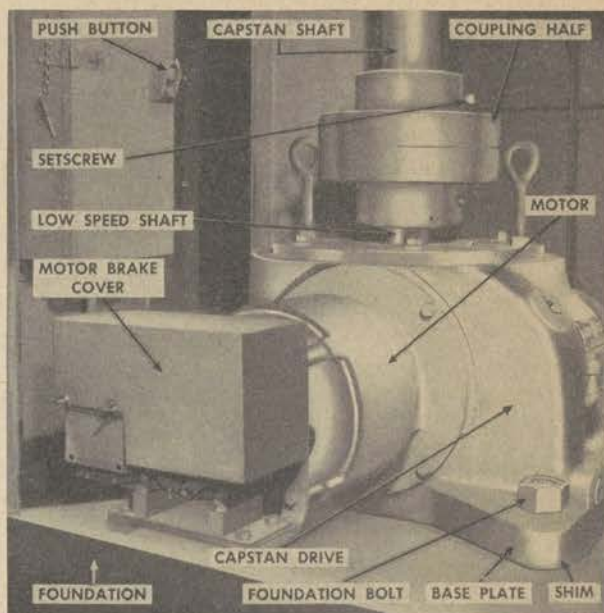

Figure 42. Capstan drive.
inch by 2-foot $1\frac{1}{2}$ -inch by $\frac{1}{2}$ -inch base plate is set on the foundation and allined with the $1\frac{1}{16}$ -inch-diameter holes in the foundation and base plate. Set the capstan motor drive, complete with motor and brake, in place with the brake end facing aft. Bolt the capstan drive, base plate, and foundation securely in place with $1\frac{5}{8}$ -inch-diameter hex head bolts, nuts and lock nuts. Place the reducer shaft coupling half key loosely over the capstan drive low speed shaft. (See fig. 42.)
(3) Use the 2-foot 4-inch square by 1-inch thick prefabricated doubler plate, complete with welded-in 1-inch-diameter studs, which is welded to the deck, as the base for the capstan head. Lower the unit, complete, less the reducer shaft coupling half, in place by inserting the capstan shaft through the 8-inch-diameter opening in the deck.
(4) Prop up the capstan with wooden blocks to allow room for fitting the reducer shaft coupling half to the capstan. Carefully remove the wooden blocks and line up the whole assembly with the shaft coupling temporarily connected. Then bolt the capstan foundation into place to the doubler plate studs with 1-inch-diameter hex nuts and lock washers. (See fig. 42.)
(5) The whole unit should be true and level in all directions. If the foundation is uneven, shim up the low corners with metal shims placed on each side of the foundation bolts. Do not drive the shim in hard enough to raise one of the corners of the base from the foundation plates. Check the